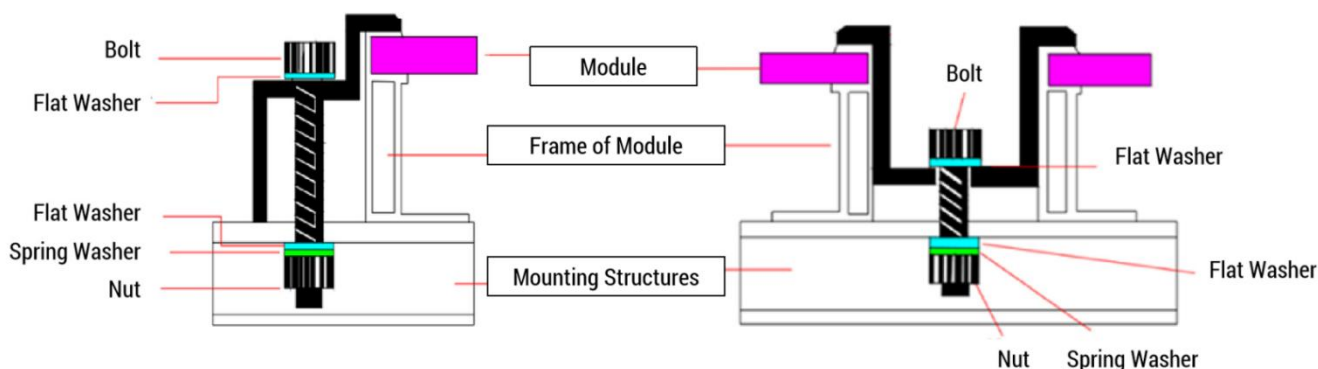

Figure 3
- The recommended clamps for aluminum framed modules are as shown in **Figure 3**. The recommended clamps for steel framed modules and polymer framed modules are as shown in **Figure 4**.